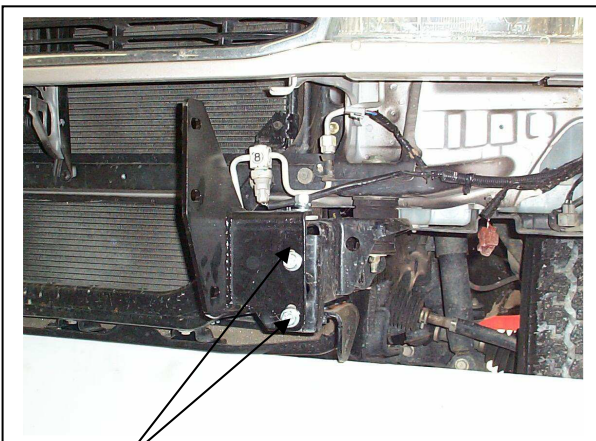

Figure 7
12. Attach ECB steel mounting brackets (supplied) to vehicle. **NOTE:** Tilt steel mounting brackets slightly in towards centre and feed onto chassis. Use M10 x 30 high tensile bolts (supplied) for front holes. **FINGER TIGHTEN ONLY.** Do not fit lower tow hook bolts at this point. **See figures 7 and 8.**